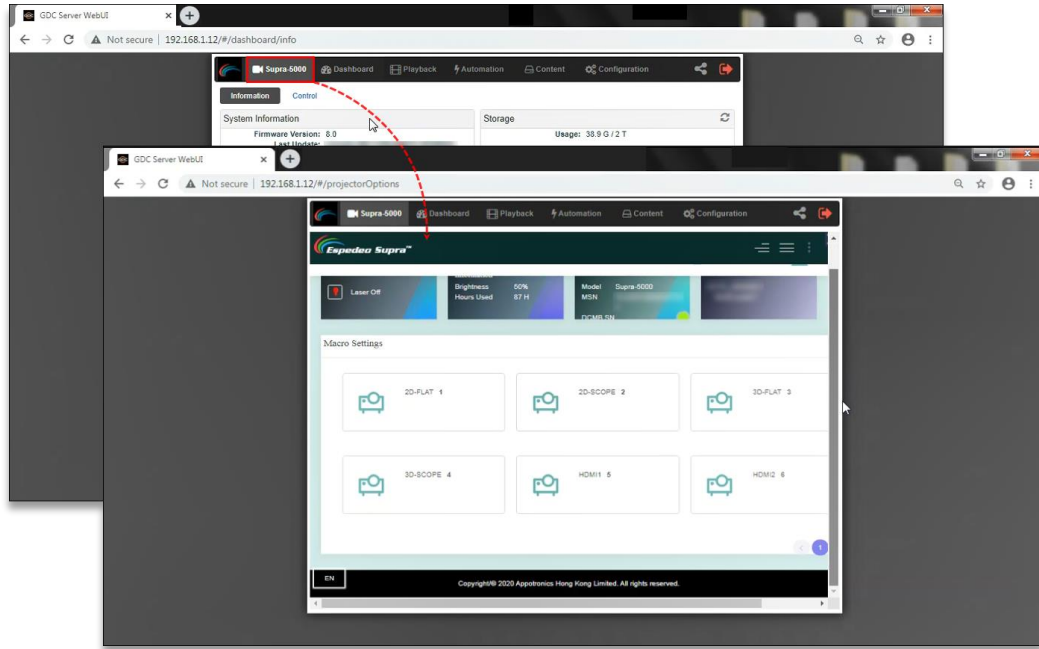

Figure 15:
- a. When the **Single tab mode** option is enabled; you can access the Supra Command Center web interface within the DCMB Web UI, by clicking on the '**Supra-5000**' tab (as shown in **Figure 15**).